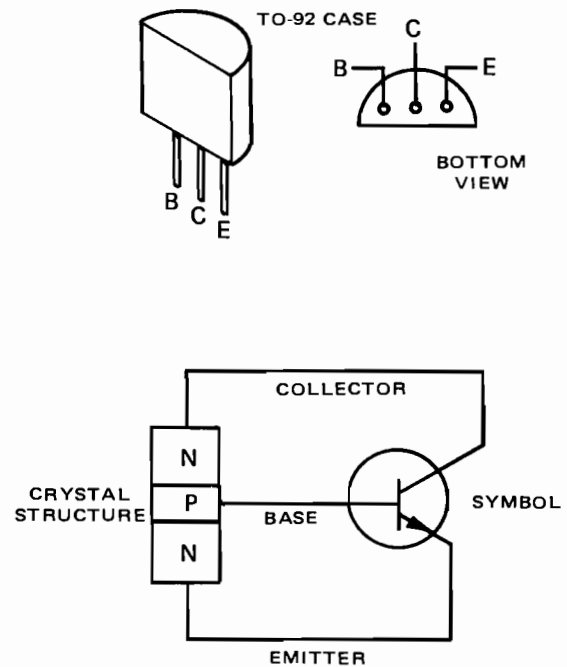

Fig. 13-4-1
3. The 2N3397 is a silicon transistor in a TO-92 plastic case. See base diagram, lead assignments, element names, and crystal structure in Fig. 13-4-1.